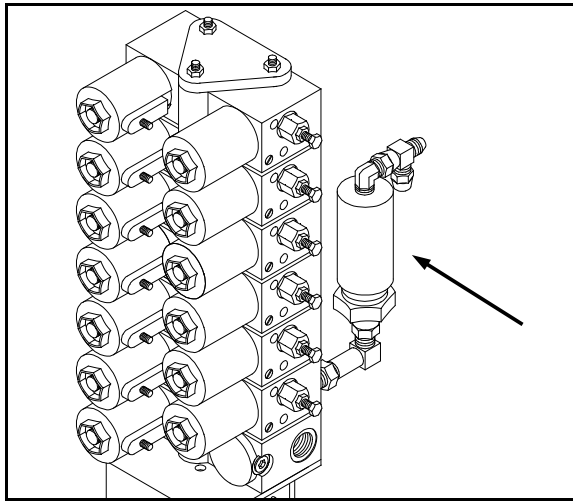
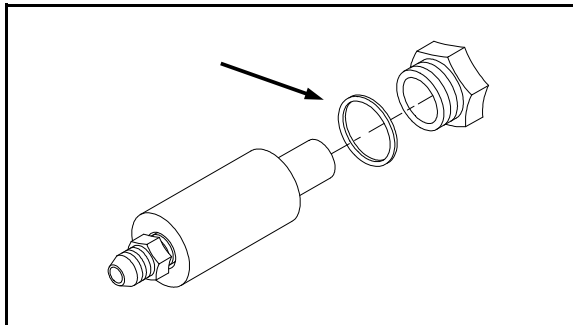

FIG 7.19
FIG 7.20
**STACK VALVES** - The valves on the lift control stack valve are protected by a 90 Micron in-line sintered bronze filter (fig. 7.19). When the filter element is removed for cleaning, caution should be taken so the gasket is in the proper place when re-installing (fig. 7.20). Also, re-install filter paying attention to direction of flow so the end marked "OUT" is oriented correctly.